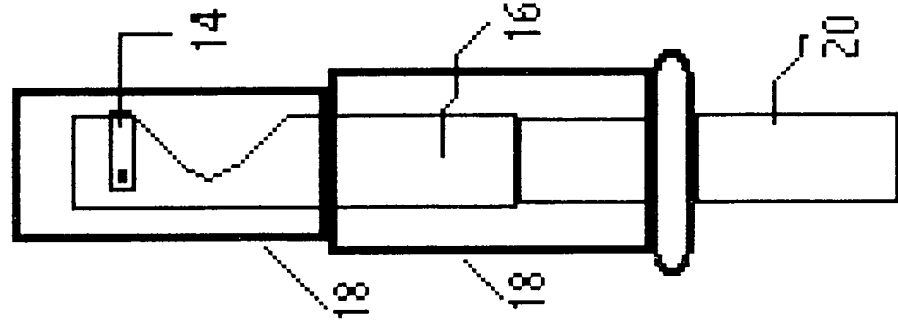
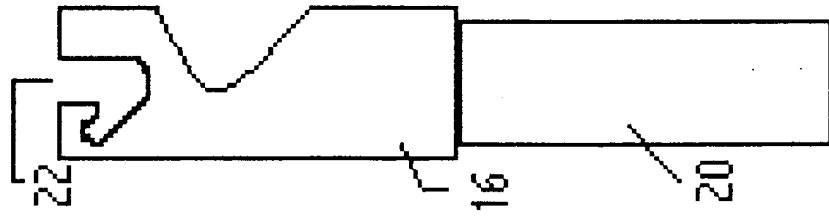
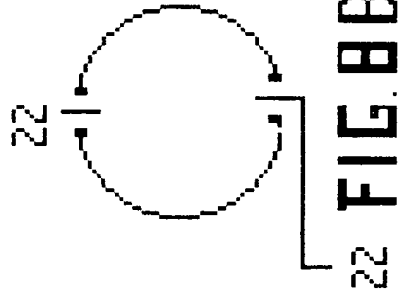

FIG. 7
FIG. 8
FIG. 8B
- Fig 7 shows ~~conventional~~ SPARK plug wire with stationary ~~(rubber)~~ SILICONE COVER boot.
- Fig 8B shows top view of Figs 8 and 8A.
The invention provides simple steps to connect and disconnect spark plug wires from spark plugs. For removal, slide rubber boot 18 ( Fig 7 ) upward to expose enough metal clamp of plug wire 20 ( Fig 8 ), press said metal clamp down, turn counter clockwise to release, since plug tip is spring-loaded, said metal clamp will be pushed out after it clears the slot pins. Compare to what mechanics are doing these days like twisting, pulling and yanking, this self-pop-up is a phenomenon. For installation, hold said metal clamp against matching slot pins (can be felt easily), once metal clamp clears said slot pins, press down and turn clockwise to lock, the spring will urge upon said metal clamp, forming a positive locking position, slide down said rubber boot firmly. With conventional snap and pull connections, even experienced mechanics can't be certain said connections are secured or just being snug, now they are black and white !